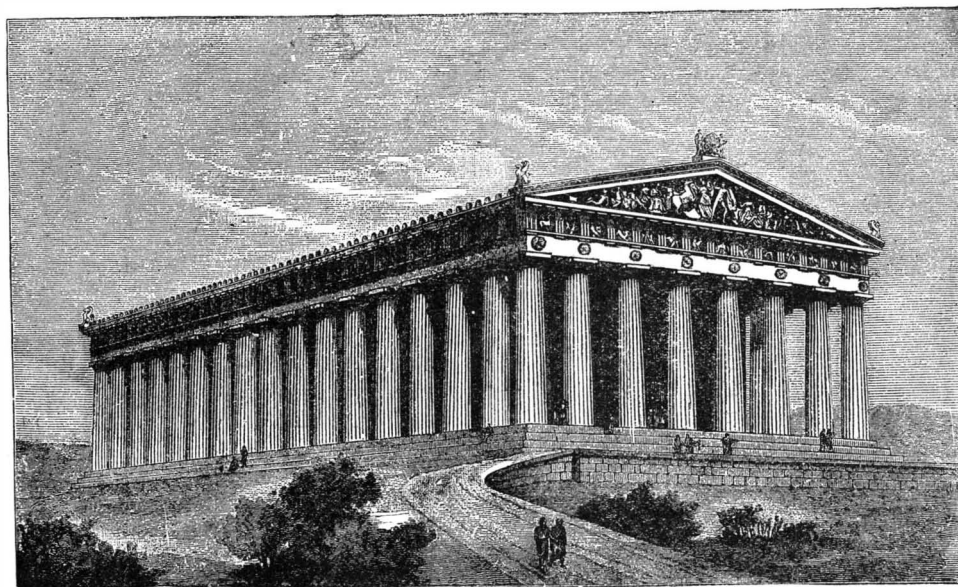

Fig. 4.—THE PARTHENON.
6. *Roofs*.—The roofs of Grecian buildings were never flat, nor were they ever ornamented by proper windows, forming a prominent architectural feature of the building, though simple openings for the admission of light probably frequently existed in some form. They were decorated by acroteria, placed at the apex and ends of each pediment (Fig. 4).